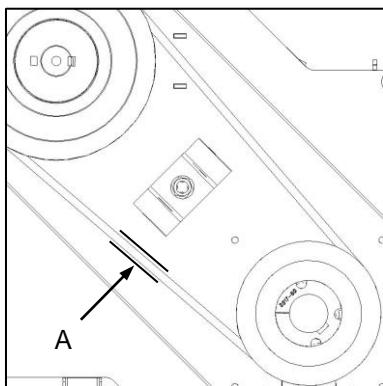

Fig. 10
- ▬ Drive belt tension should be checked at the mid-point between pulley centres (Fig. 10-A). A deflection of ± 20 mm should be evident when single-finger pressure is applied to a single belt.
- ▬ Dryfbandspanning moet halfpad tussen die katrolsentrums gekontroleer word (Fig. 10-A). Speling van ± 20 mm behoort met eenvingerdruk op 'n enkele band sigbaar te wees.